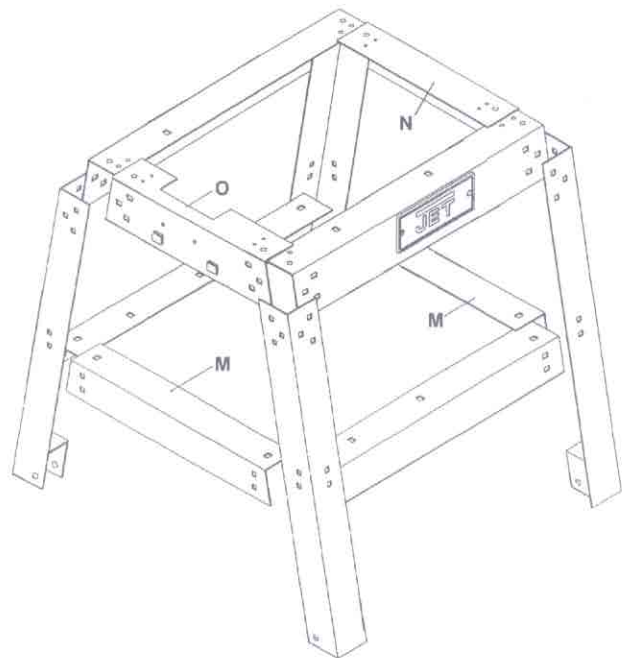

Fig. 4
6. Attach two short cross braces (M, Fig. 4) to the leg assembly with carriage bolts, flat washers, lock washers, and hex nuts.
8. Attach switch bracket plate (N, Fig.4) to stand assembly (right side when facing JET plaque) with carriage bolts, flat washers, lock washers, and nuts. **Note:** Plate lays on top of front and rear plates inside legs.
9. Attach side plate (O, Fig. 4) to left side of stand assembly with carriage bolts, flat washers, lock washers, and hex nuts. **Note:** Plate lays on top of front and rear plates inside legs.